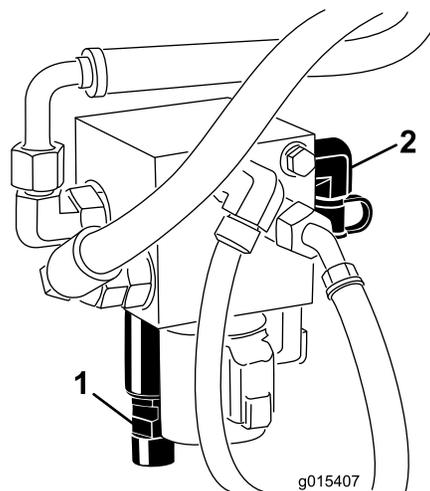

Figure 14
3. Connect a pressure gauge to the test port at the rear of the lift manifold (Figure 14).
4. On the front of the lift manifold, remove the cap from the manifold counterbalance spool (Figure 14).
5. Loosen the jam nut at the bottom of the counterbalance spool (Figure 14).